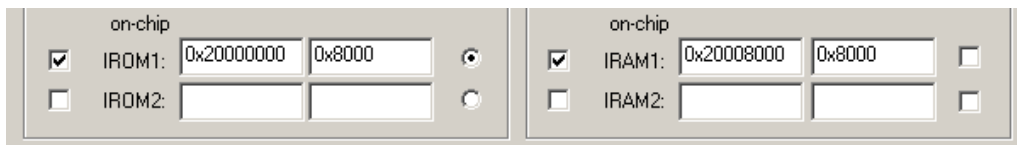

Figure 30: Configuring Memory Area (partial screen)
14. Click once (carefully) on the name "Target 1" (or twice if not already highlighted) in the Project Workspace and rename Target 1 to something else. I chose Smart as shown in Figure 30. Press Enter to accept this. Note the Target selector also changes to Smart. Click on the + to open up the directory structure if necessary. You can create many target hardware configurations including a simulator and easily select them.